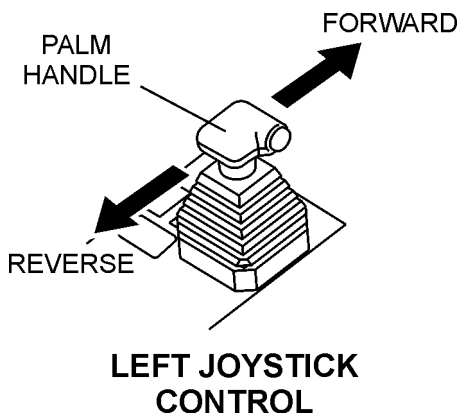

Figure 11. Left Joystick Control
8. Place the **engine throttle lever** (Figure 11) in the **HIGH** position.
Two joysticks (Figures 11 and 12) located to the left and right of the operator's seat provide directional control for the STX-SERIES Ride-On Power Trowel. Table 3 illustrates the various directional positions of the joysticks and their effect on the ride-on trowel.